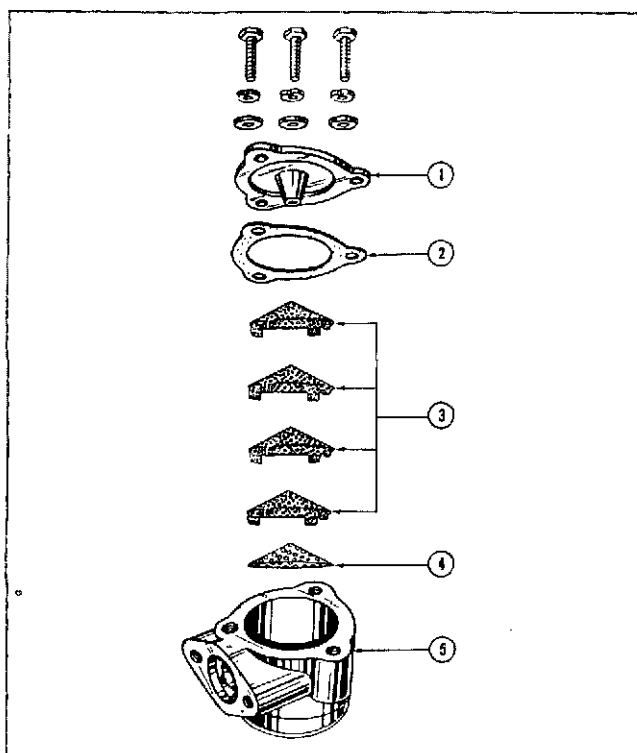

Fig. 5-24, N20312. Crankcase breather — screen type element
2. Remove capscrews, washers, cover (1, Fig. 5-24) screens (3) and baffle (4) from the breather body (5).
4. Assemble baffle (4), screens (3) and new gasket (2) in body (5).
5. Replace cover (1) with cover boss resting securely on point of screen; secure with washers and capscrews.